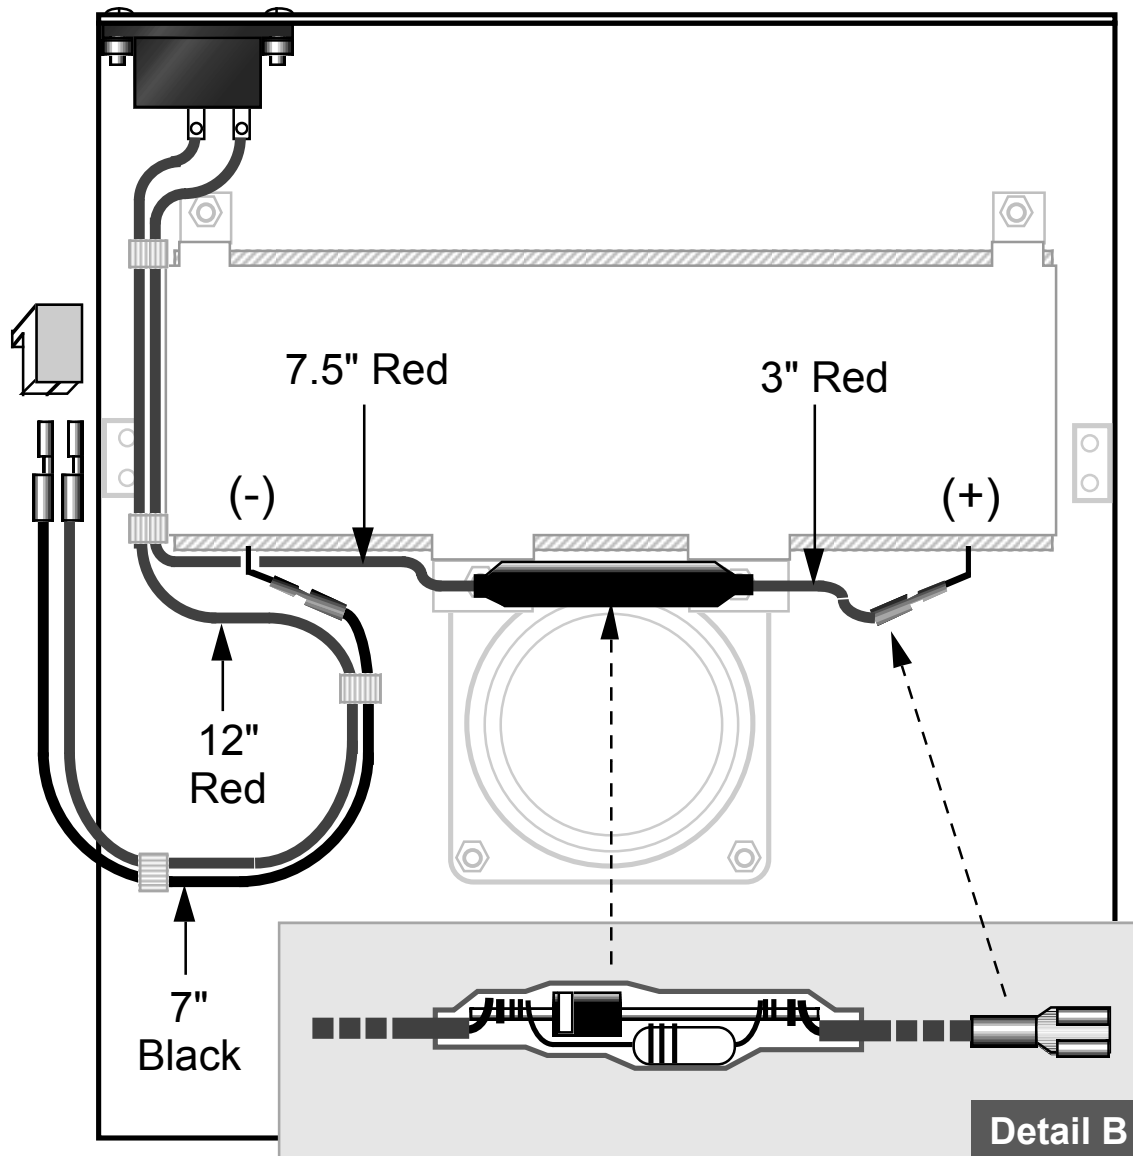

Figure 3
Refer to Figure 3 for the following steps.
- Wrap the leads of the 6.2 ohm resistor around the leads of the SB530 diode as shown in Figure 3, Detail B. The resistor should be positioned as close to the diode as possible to insure that the heatshrink tubing will fit over the assembly in a later step. The resistor's leads should be just long enough to wrap around the diode leads.
Position the diode/resistor assembly between the battery and speaker as shown in Figure 3.
Insert the wires with the crimp terminals into the female connector housing (battery connector) as shown at the left side of Figure 3. Verify that the black wire is on the left, with the plastic nubs on the housing facing down.
Use cable ties to secure the red and black wires at approximately the locations shown in Figure 3.
- Use a DMM (digital multimeter) on a 20 or 30 volts DC scale to verify that the battery connector is wired as shown in Figure 3.